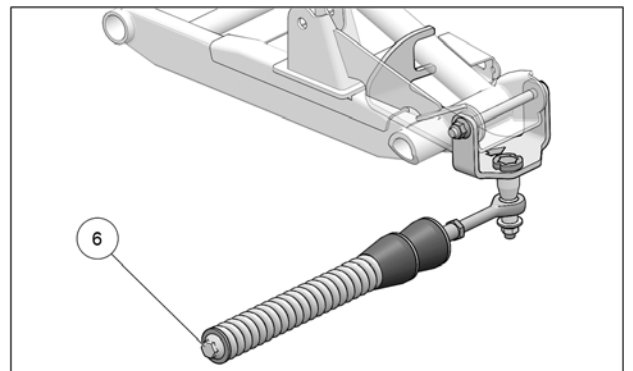

Fig. 14
13. Verify that spring assembly bolt (6) is tightened to specified torque: 75 N•m [55 lb•ft]. Refer to Fig. 14